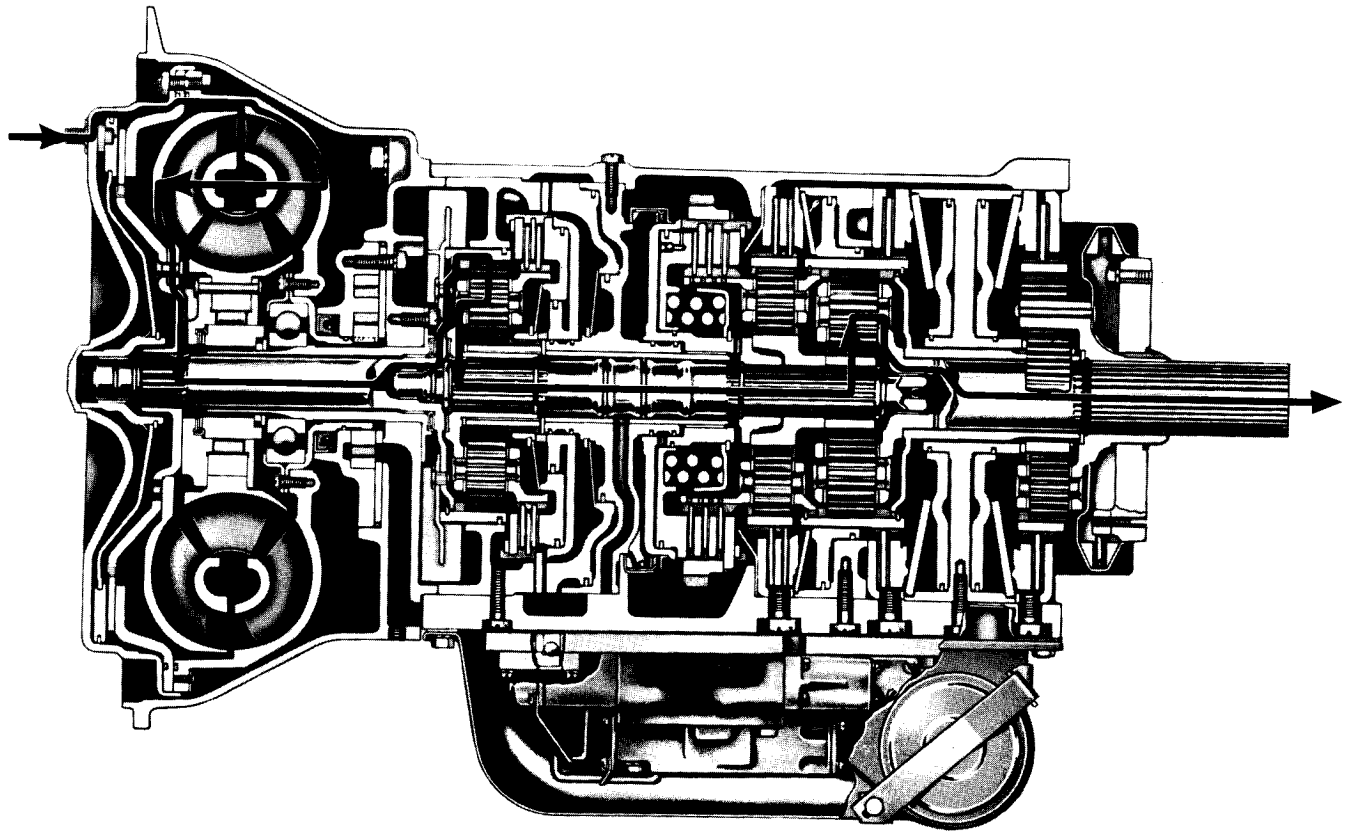

Fig. III-14 First-gear power flow, converter
a. First Gear (fig. III-14). In first gear, the splitter system is in low ratio (1.39:1), driving the low-range sun gear clockwise. The low-range clutch is engaged, holding the low-range ring gear stationary. The low-range planetary pinions, meshing with both